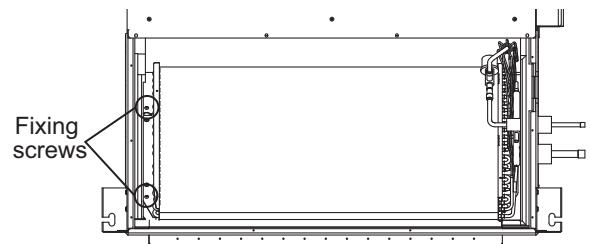

Fig.5
- (6) Remove the heat exchanger. (fixing screws: two) (Fig.5,6)